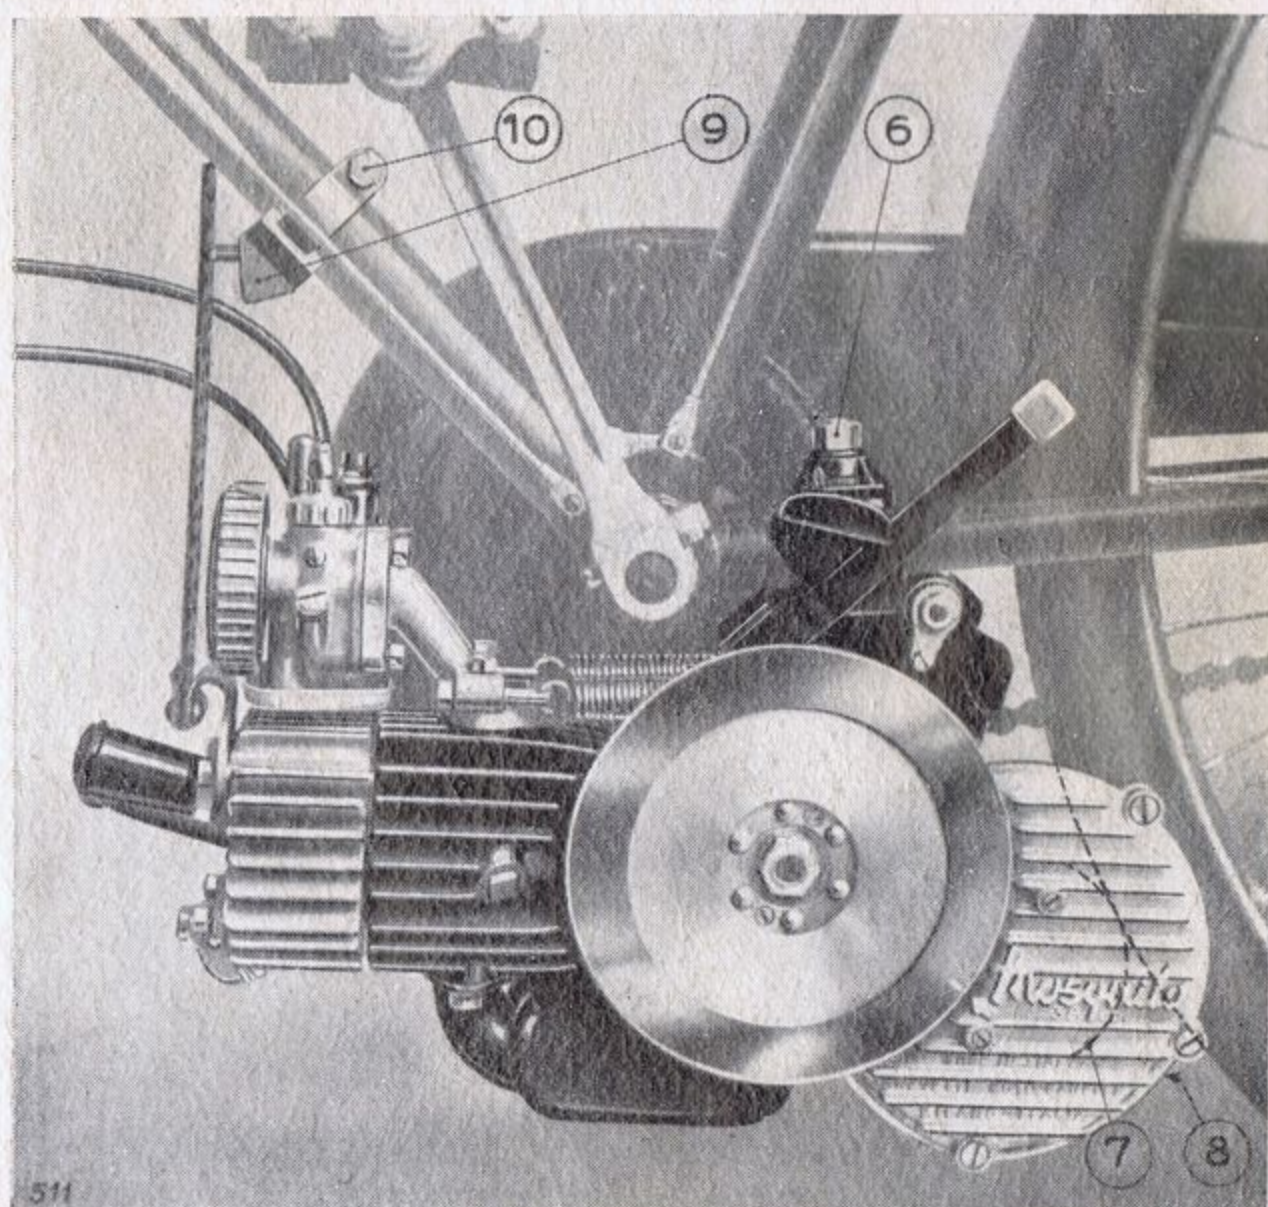

Fig. 3
Slide the engine over the tubes of the fork (fig. 3) until the roller 7. is just touching the tyre of the back-wheel and the axis of the cylinder is approximately horizontal.
**D) Every 1,200-1,500 miles,** dismantle cylinder head, cylinder and the exhaust, and decarbonise thoroughly them. To dismantle the cylinder it is necessary to unscrew the bolts that control the two springs. This is shown in figs. 3, 4 and 5.